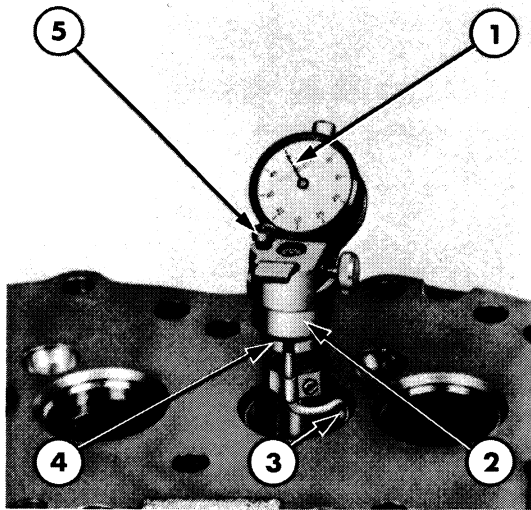

Figure 16
7. Measure the concentricity of the valve seat with a suitable gauge, Figure 16, or check with Prussian Blue. If the valve seat runout exceeds 0.0015 in (0.0381 mm) reface the seat.